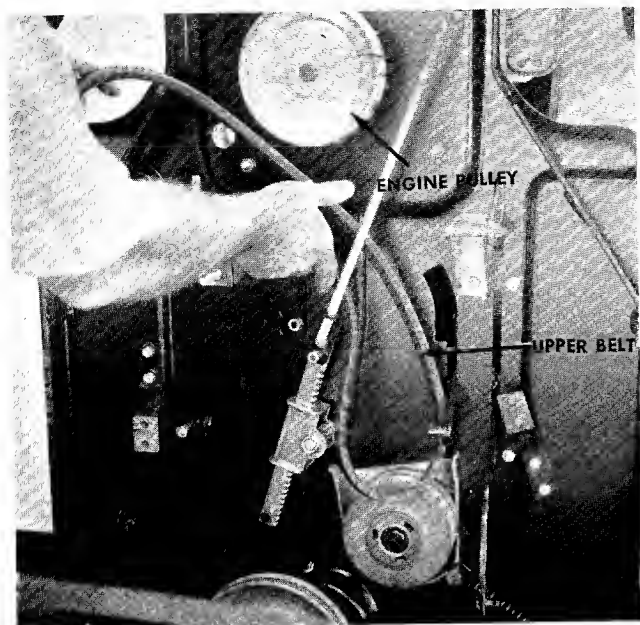

FIGURE 34. REMOVING THE UPPER BELT
Step 12. Unhook the upper belt from the engine pulley and remove. See figure 34.